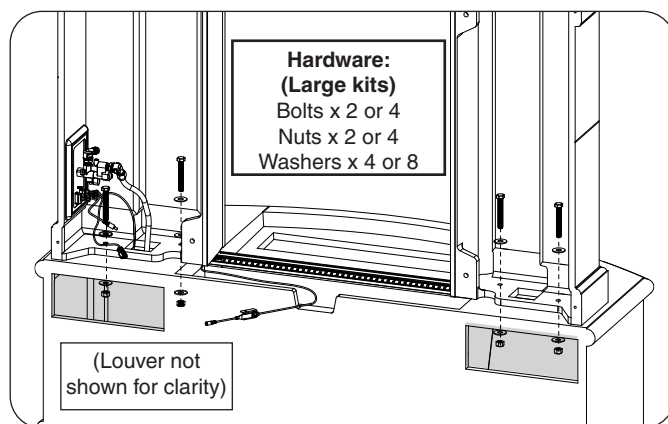

Fig. 25-2 Fasten top
8. Insert the hardware (**large hardware kits**) in the order shown in Fig. 25-2. Hand tighten, then use two $\frac{3}{4}$ " open end wrenches (or equivalent) to fasten.